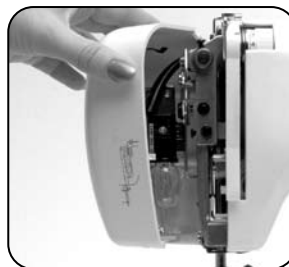

Fig. 3
1. Open the face cover [Fig. 3].